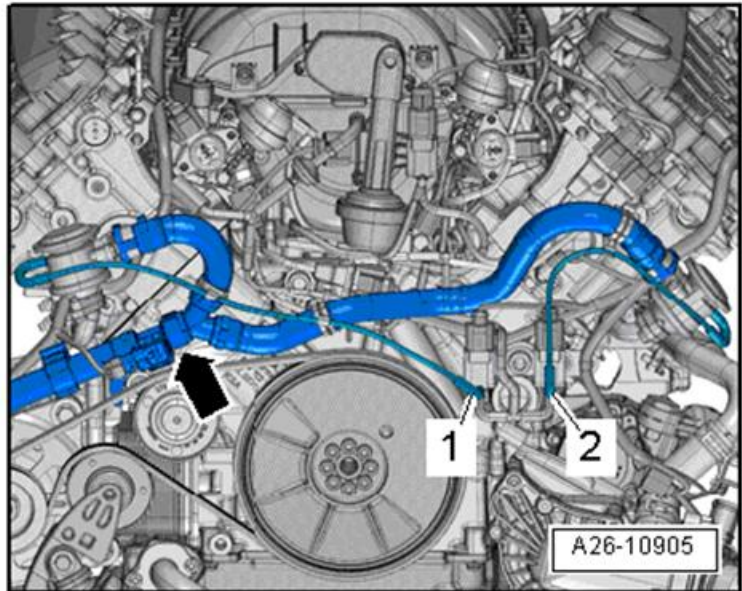

Figure 3. Solenoid valves N112 and N320 (1 and 2)
3. Disconnect the vacuum hoses to the solenoid valves N112 and N320 (Figure 3, 1 and 2), then connect the VAS 6213 to the hoses, one at a time.